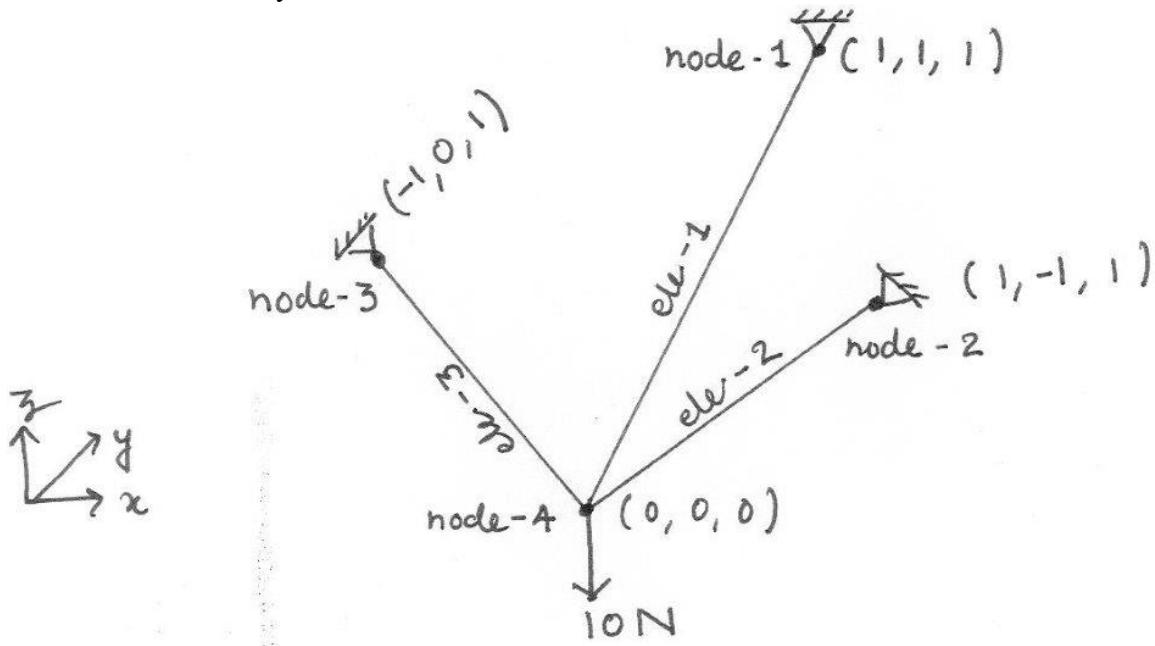

Figure 2
2. In the 3D – truss shown in Figure 2, all the members are made of the same material of $E = 200 \text{ N/m}^2$, and all members have circular cross section of diameter D . Find the minimum necessary value of D , if the truss material has a maximum permissible stress in tension = 5 kN/m^2 and maximum permissible stress in compression = 3 kN/m^2 . Use 3D – truss elements in your solution.